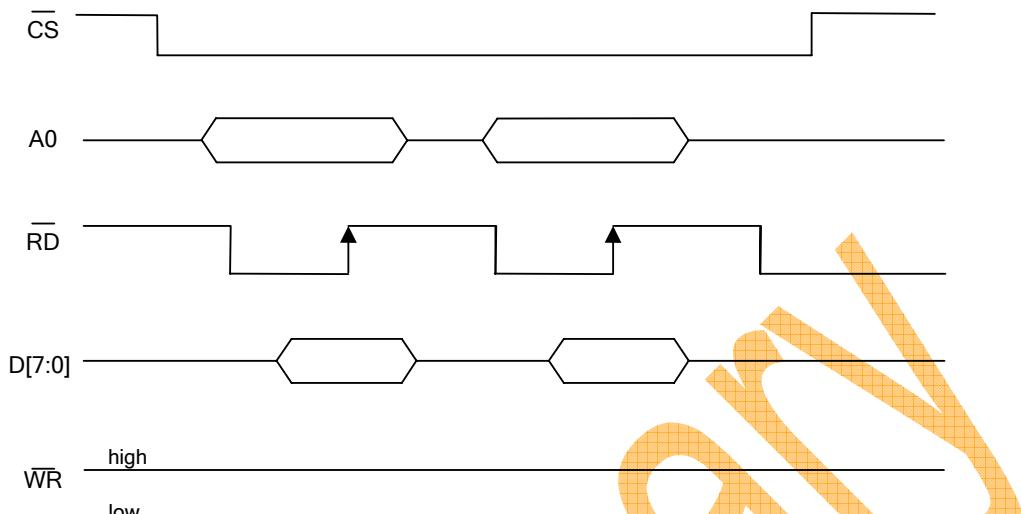

Figure.7 Example of read procedure in 8080 parallel interface form 1
The CH1116 supports both read and write access. The R/W bit is part of the slave address. Before any data is transmitted on the I²C-bus, the device that should respond is addressed first. Two 7-bit slave addresses (0111100 and 0111101) are reserved for the CH1116. The least significant bit of the slave address is set by connecting the input SA0 to either logic 0(VSS) or 1 (VDD1). The I²C-bus protocol is illustrated in Fig.7. The sequence is initiated with a START condition (S) from the I²C-bus master that is followed by the slave address. All slaves with the corresponding address acknowledge in parallel, all the others will ignore the I²C-bus transfer. After acknowledgement, one or more command words follow which define the status of the addressed slaves. A command word consists of a control byte, which defines Co and D/C (note1), plus a data byte (see Fig.7). The last control byte is tagged with a cleared most significant bit, the continuation bit Co. After a control byte with a cleared Co-bit, only data bytes will follow. The state of the D/C-bit defines whether the data-byte is interpreted as a command or as RAM-data. The control and data bytes are also acknowledged by all addressed slaves on the bus. After the last control byte, depending on the D/C bit setting, either a series of display data bytes or command data bytes may follow. If the D/C bit was set to '1', these display bytes are stored in the display RAM at the address specified by the data pointer. The data pointer is automatically updated and the data is directed to the intended CH1116 device. If the D/C bit of the last control byte was set to '0', these command bytes will be decoded and the setting of the device will be changed according to the received commands. The acknowledgement after each byte is made only by the addressed slave. At the end of the transmission the I²C-bus master issues a stop condition (P). If the R/W bit is set to one in the slave-address, the chip will output data immediately after the slave-address according to the D/C bit, which was sent during the last write access. If no acknowledge is generated by the master after a byte, the driver stops transferring data to the master.